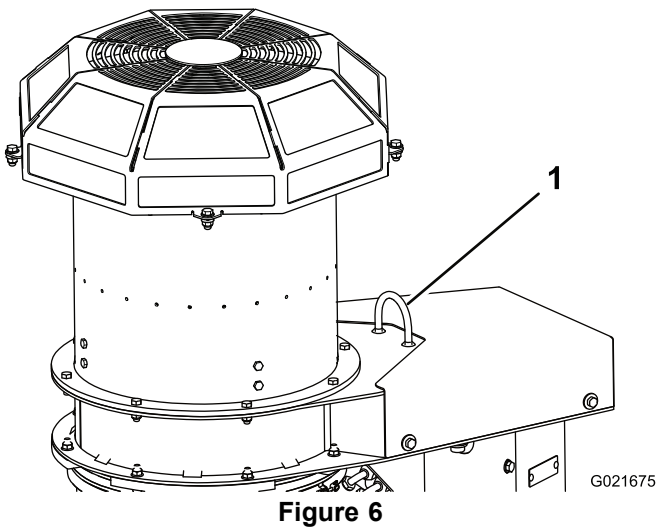

Figure 6
6. Remove the strap from the pallet and attach it to the lift loop on the blower (Figure 6). Lift the blower until the strap is tight.